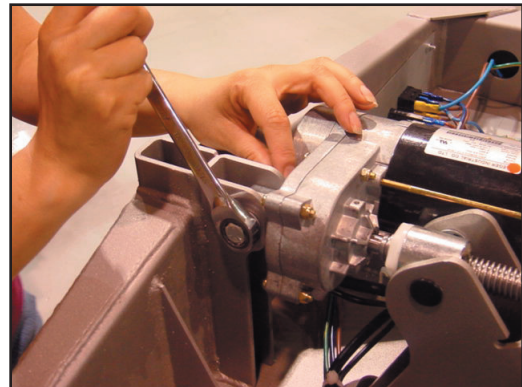
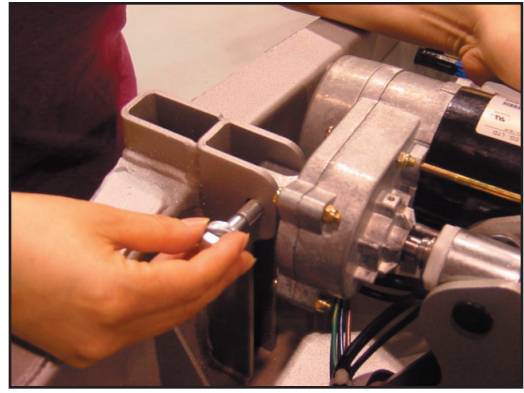

Figure 4
Figure 10
- 2.5 Remove the Hardware attaching the Rear of the actuator to the frame (see Figure 4).
- 3.7 Pull the Actuator back and align with bracket on the frame, Than attach with the mounting hardware. See Figure 4 and Figure 10.